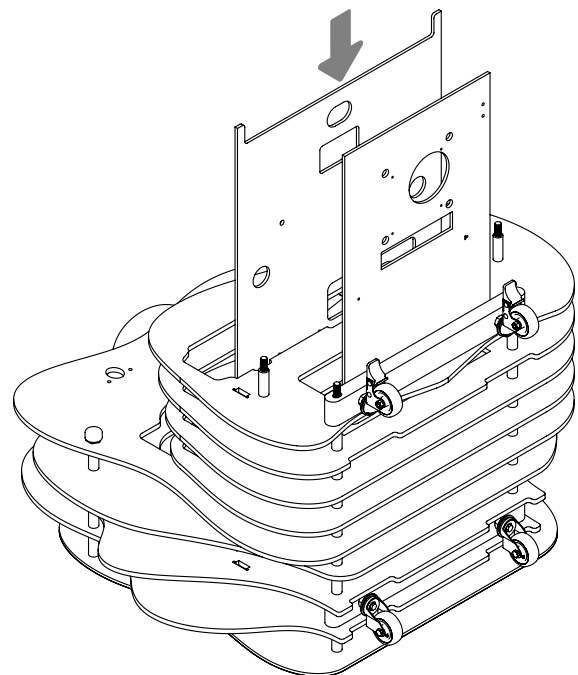

Figure 4.
- Insert the inner shelves (Figure 4)